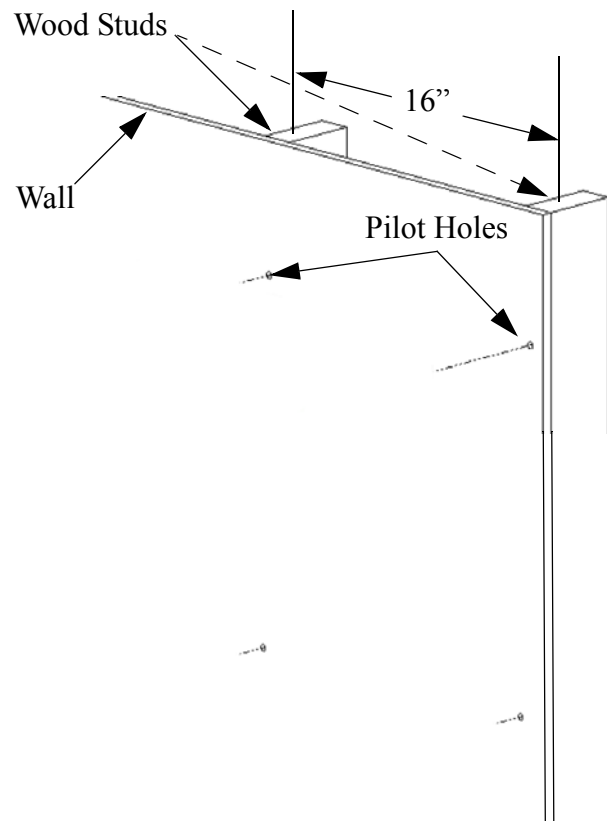

Figure 1. Two Wood Studs 16" Apart On Center
6. Using a 7/32" drill bit, drill two pilot holes where the mounting holes were marked for anchoring the top bracket on the MSP-LA. See Figure 1.